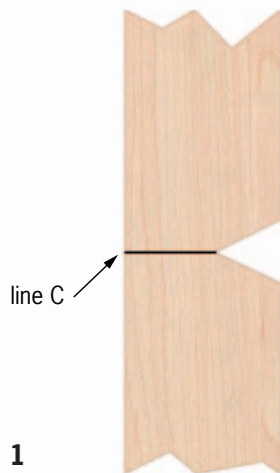

Fig. 1
3. On one slat, cut a V-shaped notch 3/8 in. wide and about 3/8 in. deep at line C. (See Fig. 1)